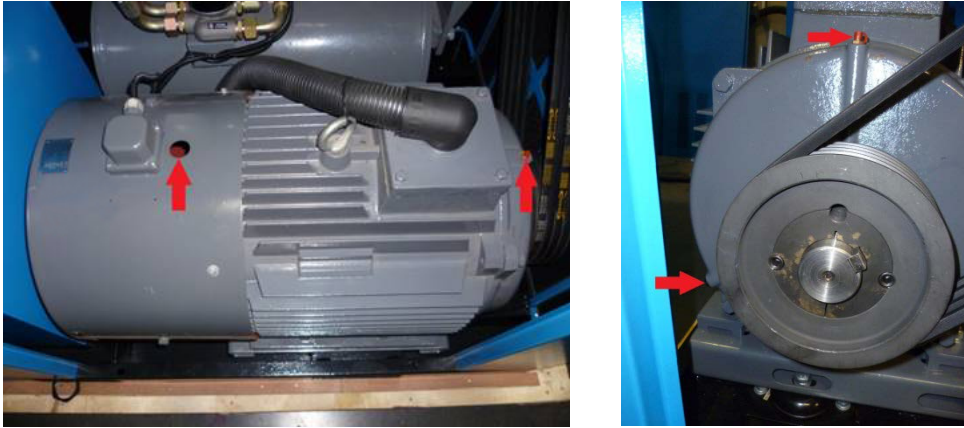

Figure 6-7 Motor Bearing Re-Greasing
- a. Locate the grease nipple on top of each DE and NDE bearing and also the grease drain plug underneath (that may be offset to one side). Refer to Figure 6-7. It is often necessary to temporarily remove the motor fan cowl on the non-drive end to access these points.